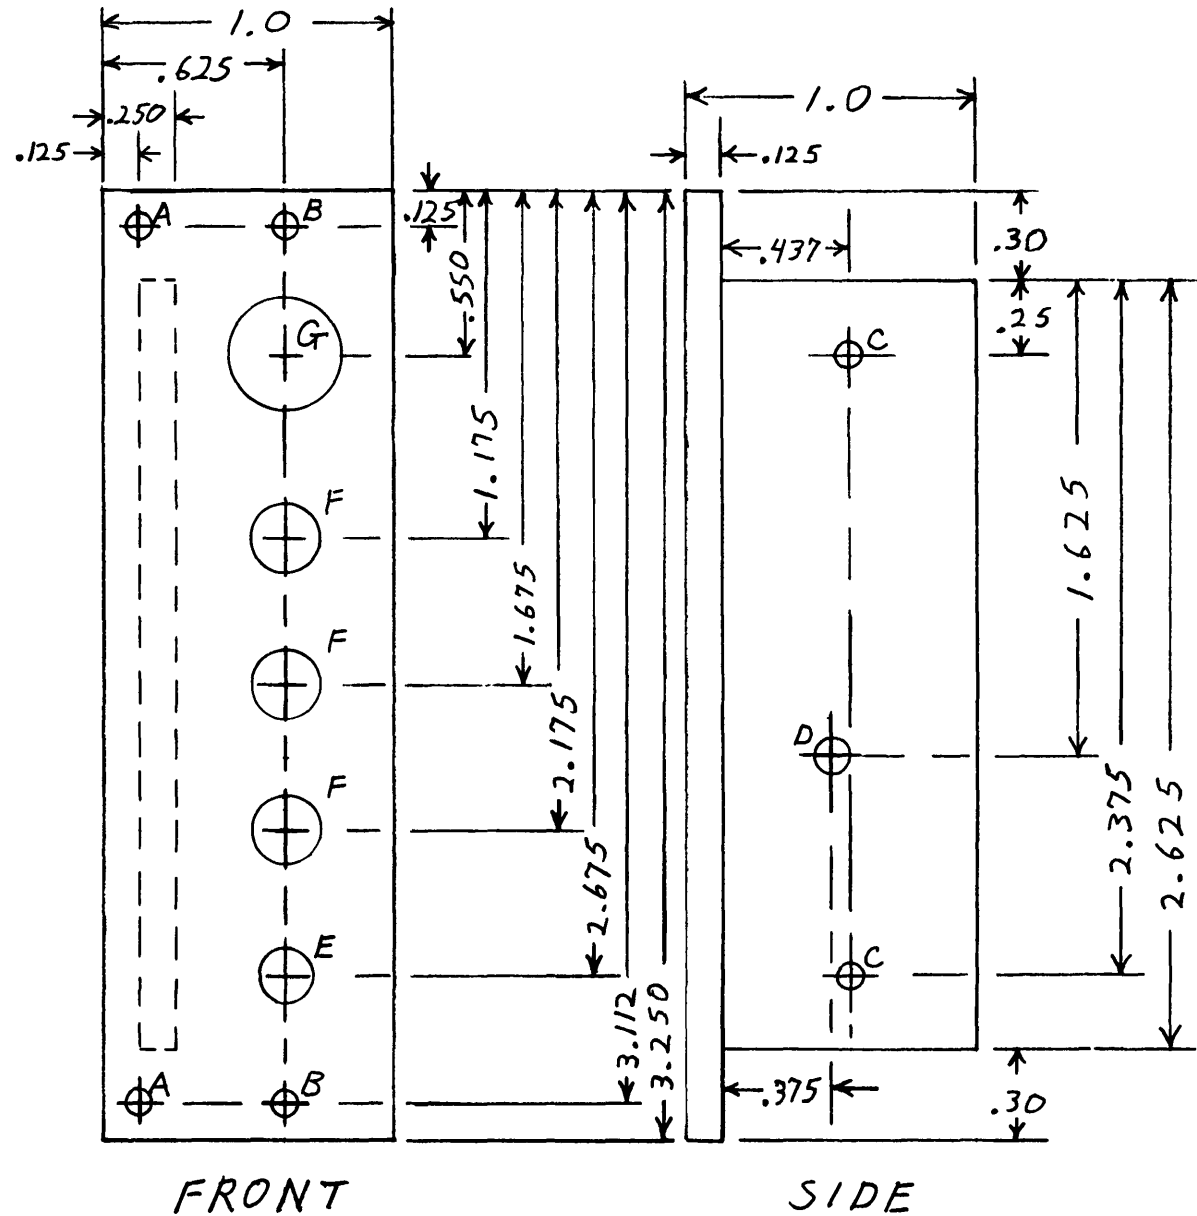

Figure 15 - Heatsink/Panel for Overvoltage Protection Card
- (1) Heatsink/panel, Figure 15